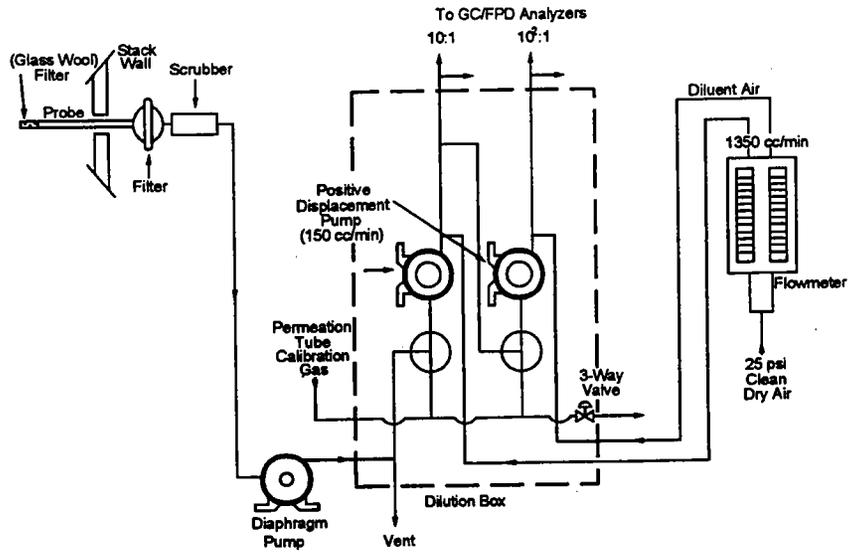

Figure F15-1. Sampling and Dilution Apparatus.
1. Assemble the apparatus as shown in Figure F15-1. Calibrate the system before the first run as in section B.